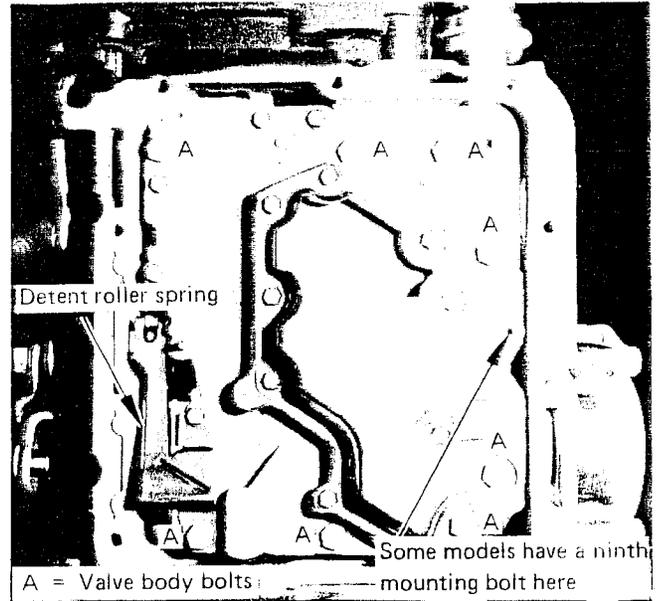
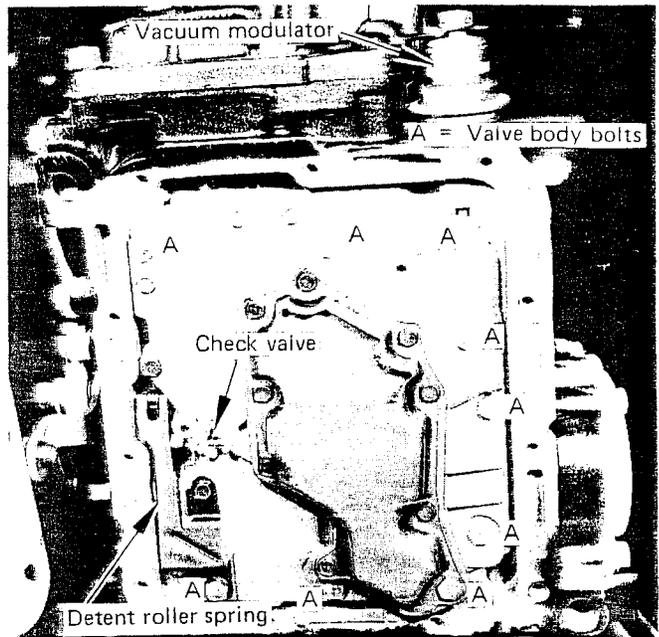

FIGURE 1 (ALL EXCEPT PINTO)
FIGURE 1A (PINTO ONLY)
STEP 2. Manually operate the kickdown lever on the transmission with the gas pedal depressed half way. Note how it moves freely with no bind. Observe how the internal linkage engages the valve body. Note position of detent roller spring. (See Fig. 1)
STEP 3. Remove the eight or nine valve body attaching bolts (See Fig. 1) and remove the valve body by pulling straight down. Put the valve body in the oil pan. Pinto models have a check valve next to the filter. (See Fig. 1A) Note: Detent roller spring comes out with valve body. (See Fig. 1)
STEP 17. Install valve body into transmission carefully. You must engage selector lever into manual valve and align kickdown lever properly. Work kickdown lever with your hand slightly while installing valve body. You should be able to hold the valve body flat against the case without excessive force. The kickdown lever should move freely with no bind as it did before removal. Install valve body bolts finger tight. The long bolt goes thru the filter. Install detent roller spring in corner. (See Fig. 1) Again check for free operation of kickdown and shifter linkage. Tighten valve body bolts to 80-120 in. lbs. Tighten detent roller spring casting bolt to 20-40 in. lbs.